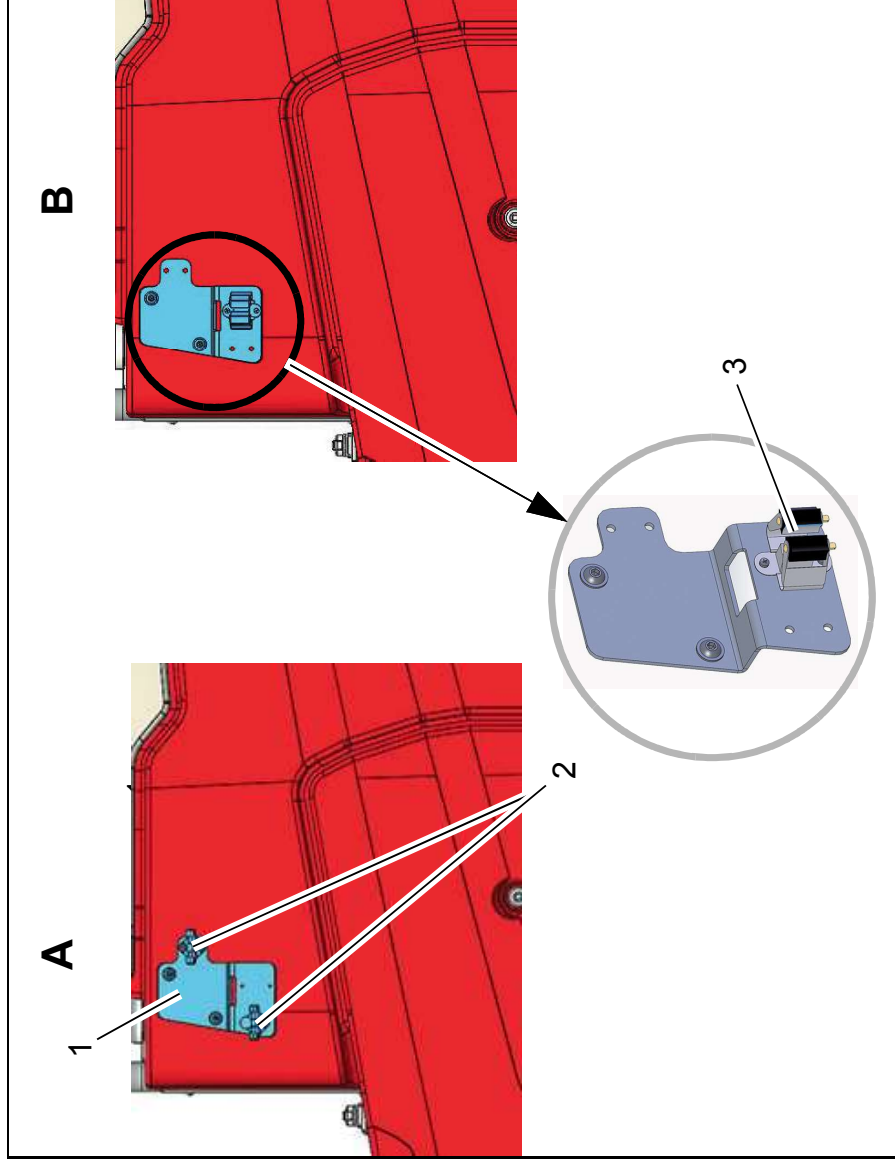

Fig. 2
For manual suction tool (Fig. 2/A)
Holder, pre-assembled (Fig. 2/1) with flanged button head bolts M8x12 and washers 8.4, fit to left-hand side of machine as shown in the illustration. Maximum tightening torque 10 Nm.
For mop (Fig. 2/B)
Machine with rotating brush (Fig. 2/A)
1. Slacken M8x25 fastening screws of the side scraper a little (Fig. 2/1). Slide set-down plate until it comes up against the slackened screws (Fig. 2/2).
Machine with roller brush (Fig. 2/B)
1. Slacken M8x25 fastening screws of the side scraper a little (Fig. 2/3).
2. Guide the set-down plate through the opening of the scraper (Fig. 2/4).
3. Slide set-down plate until it comes up against the slackened screws (Fig. 2/5).